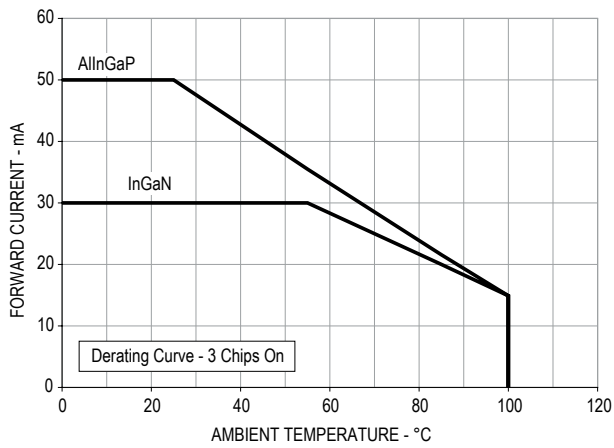

Figure 5a. Maximum forward current vs. ambient temperature. Derated based on  $T_{JMAX} = 125^{\circ}C$ ,  $R_{\theta JA} = 600^{\circ}C/W$  (3 chip on).
1. Derate Linearly as shown in Figure 5a & 5b.